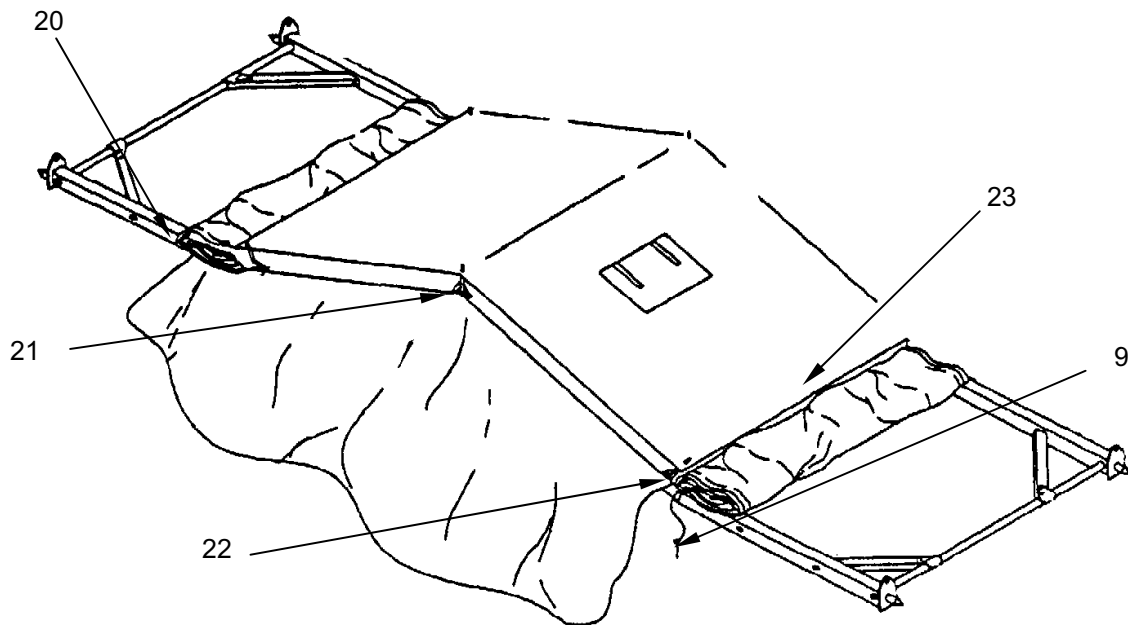

Figure 6. Removing the Fabric.
1. Disconnect hitch clip pins (**Figure 6, Item 9**) from eave extenders (**Figure 6, Item 20**).
2. Remove eave extenders (**Figure 6, Item 20**).
4. Remove hitch clip pin from ridge extender (**Figure 6, Item 21**).
5. Remove ridge extender (**Figure 6, Item 21**).
6. Remove modified end section (**Figure 6, Item 22**) and regular end section on opposite side of frame.
7. Remove window section (**Figure 6, Item 23**) from frame.